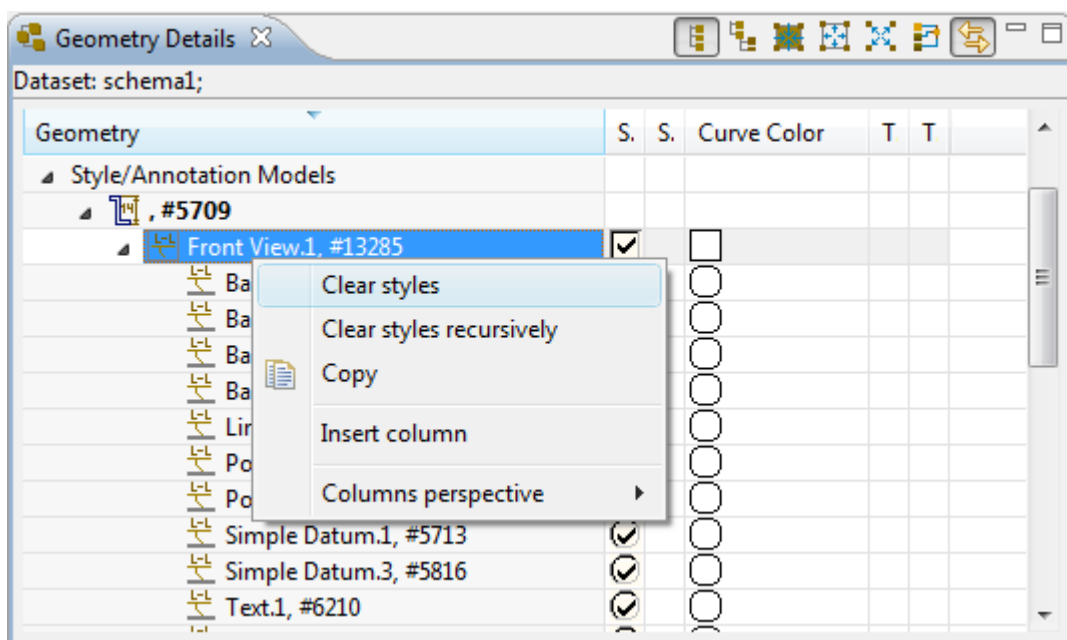
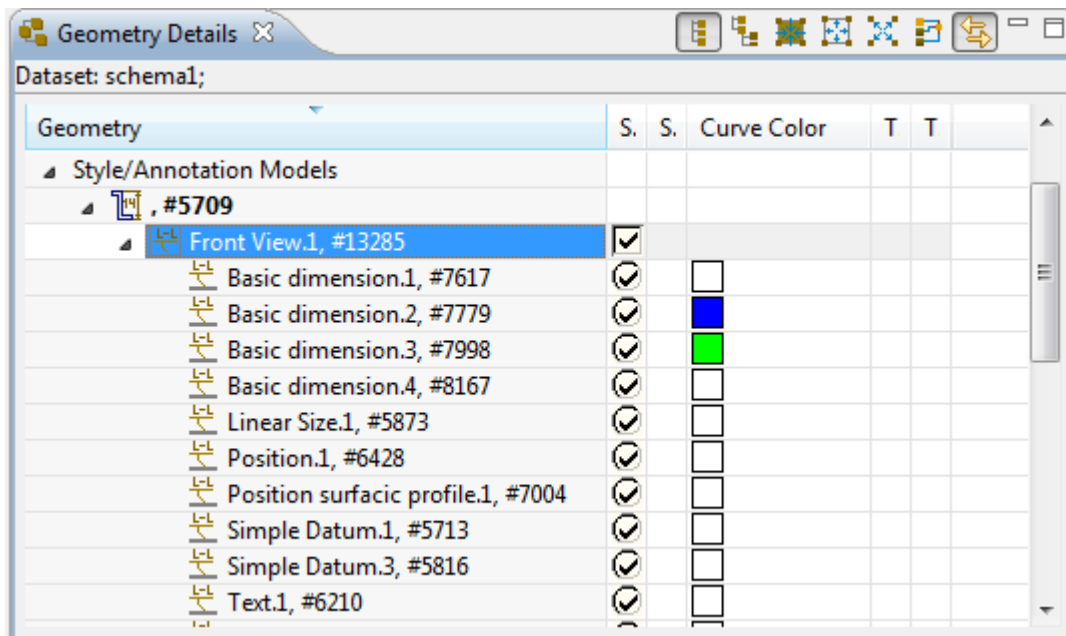

Figure 6. Selected annotation occurrence with explicitly defined style (i.e. white colour rectangle), Context sensitive menu
Figure 7. Individually styled annotation occurrences (coloured rectangles)
- **Clear styles** - remove styling for the currently selected element (see Figure 6). After the parent styling is removed, individual styling is used for the child element, which are individually styled (see Figure 7).